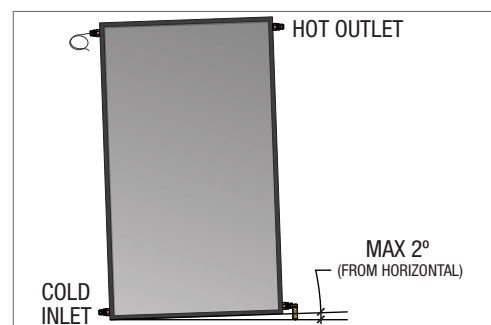

Fig 5
- c. Angle the collector rail slightly (max 2° from horizontal) on the side where the hot outlet will be, to allow any air to be bled from the highest point (Fig 5)
- b. Angle the collector rail slightly (max 2° from horizontal) on the side where the hot outlet will be, to allow any air to be bled from the highest point (Fig 5)